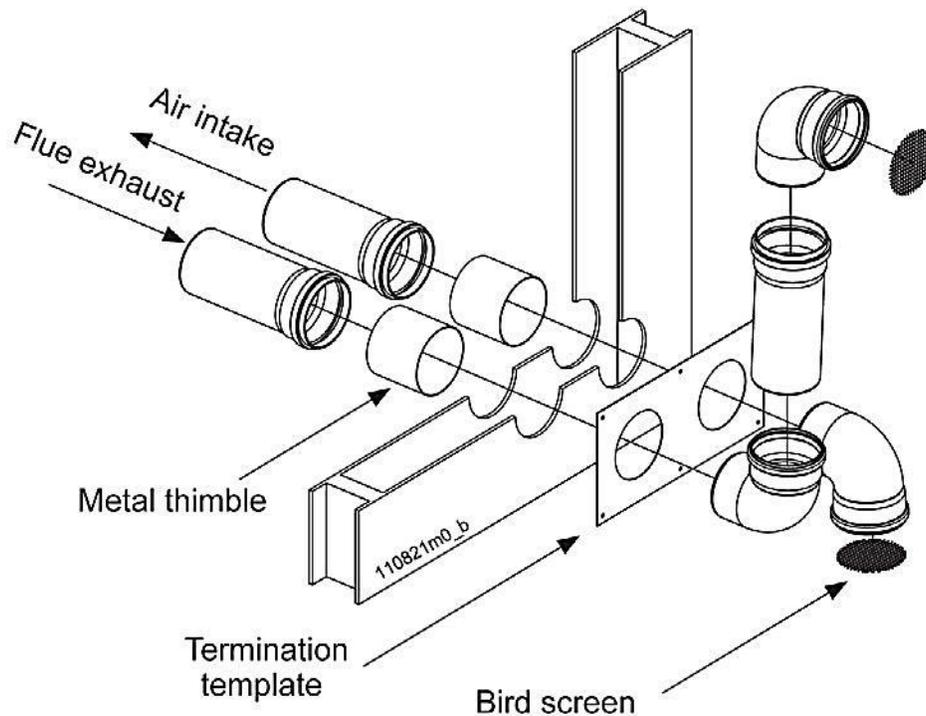

Figure 6-6: Separate Air Intake and Vent Pipes Sidewall Termination
- b) Insert a galvanized metal thimble in the vent pipe hole as shown in Figure 6-6.